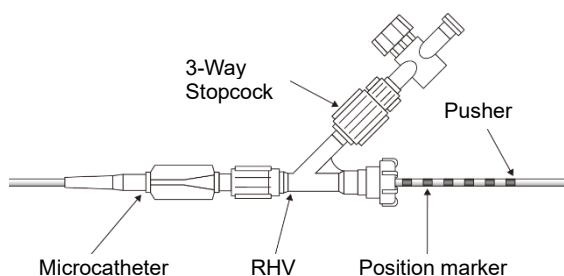

Figure 2. The position marker reached the RHV
The position marker is to indicate that the coil has not yet protruded out of the microcatheter when the position marker has reached the Rotating Hemostatic Valve (RHV) (as shown in Figure 2), while advancing the i-ED COIL into a microcatheter with 150 cm of the effective length.
- (5) Advance the pusher into the sheath to its rear end, then, hold it, and remove the sheath through the rear end of the pusher.
- (6) Confirm if the position marker exists and is visible on the proximal end of the pusher.
- (7) Carefully advance the pusher till the position marker has reached at the proximal end of the RHV connected with the microcatheter (see Figure 2).
- (8) Advance further the pusher to deliver the coil to the distal end of the microcatheter. Confirm, using X-ray fluoroscopy, that the detachable part has advanced exceeding the second marker (proximal side) of the microcatheter.
- (9) Connect the ED clip to the end of the i-ED COIL pusher. Confirm that the red lamp of the EDG v4 is lit and the buzzer is beeping. (If the ED clip is connected before the detachable part has crossed over the second marker of the microcatheter, the EDG v4 may not be activated to detect the detachable part. If this occurs, disconnect the ED clip, advance the detachable part to cross over the second marker of the microcatheter, and then, reconnect the ED clip to the pusher.)